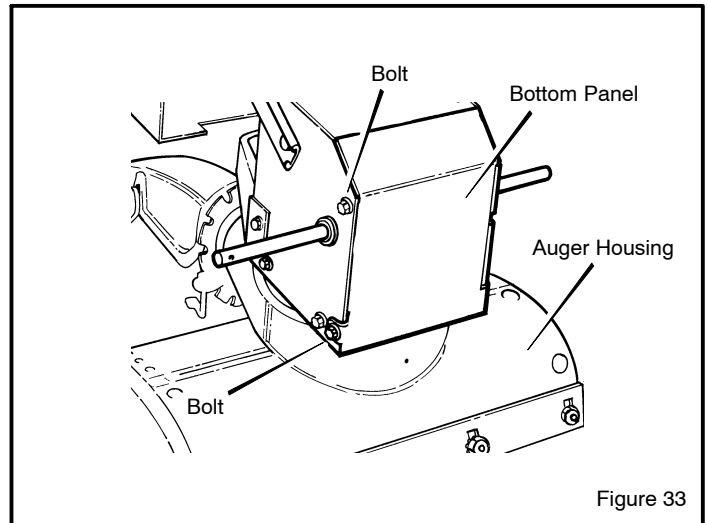

Figure 33
2. Loosen the **bolts** on each side of the **bottom panel** (see Figure 33).
18. Install the **bottom panel** (see Figure 33).
13. Install the **bottom panel** (see Figure 33).